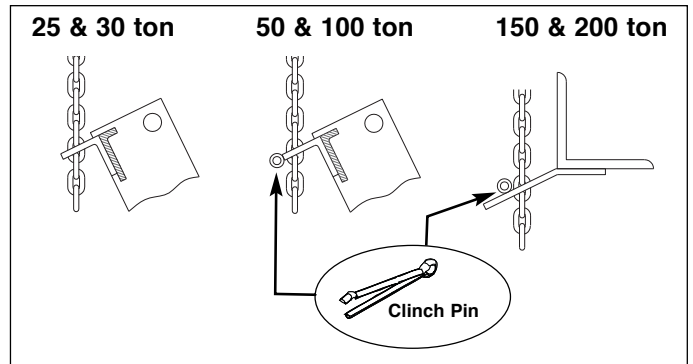

Figure 1, Chain and Lifting Hook.
1. Open the Hydra-Lift® or hand pump release valve (I) to fully extend the plunger.
2. Slide the lifting chain (J) into the lifting hook on the press bed/bolster as shown in Figure 1. Install clinch pin (50, 100, 150 and 200 ton models only).